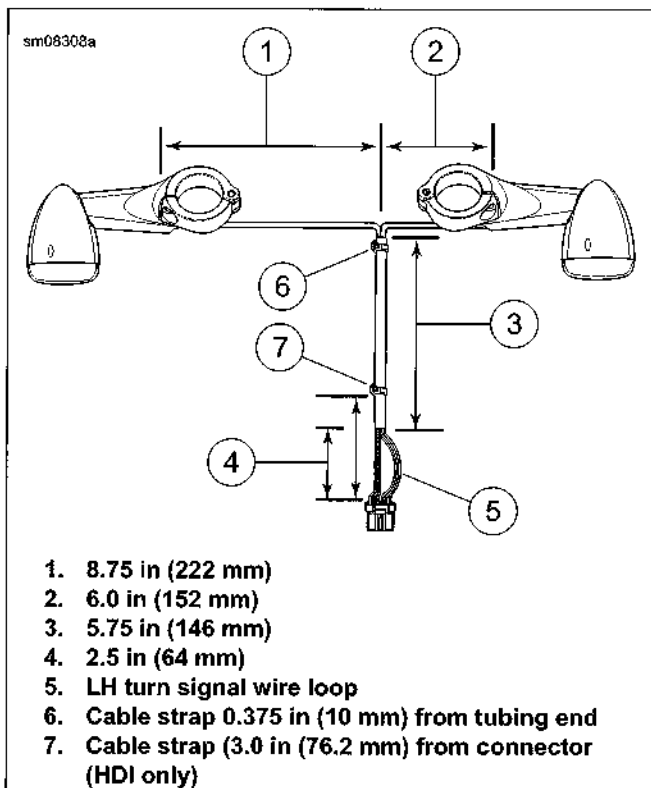

Figure 6-64. Front Turn Signal Wire Harness: XL 1200T
4. See Figure 6-64. Install conduit over each set of turn signal wire leads.